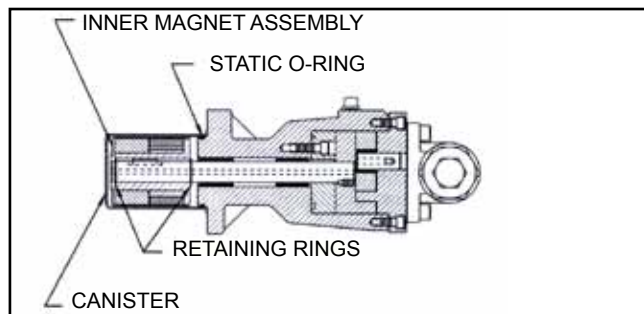

FIGURE 29
3. Install the first external retaining ring (in the groove closest to the casing) and the key on the pump shaft. Slide the inner magnet assembly onto the shaft, (the counterbore of the magnet is pointed away from the pump) so that it butts against the snap ring. Install the second external retaining ring (closest to end of shaft) to secure magnet. **See Figure 29.**